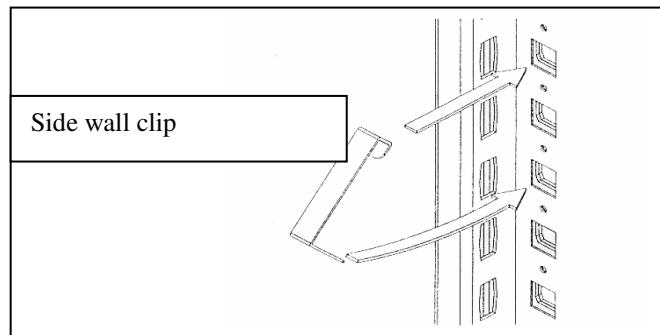

fig.1
- Place the lowest side wall section ($h = 1994$ mm) between the frame support profiles. Secure on both sides approx. 140 mm under the bottom edge of the side wall with locking pins (the round holes must be congruent with each other!). For a shelving unit height 2000 mm, fix the side wall with five clips on each side, starting from the top, at intervals of approx. 450 - 500 mm (see Fig. 1) and bend up the lugs. For shelving unit heights of 2500 mm and 3000 mm, secure the side wall with four clips on each side, starting approx. 500 mm under the side wall top edge, at intervals of approx. 450 - 500 mm (see Fig. 1) and bend up lugs.
- Position the upper side wall section ($h = 544$ mm for shelving unit height $H = 2500$ mm) between the support profiles of the frame, flush with the top edge of the unit. Secure on both sides approx. 140 mm under the bottom edge of the side wall with locking pins. Fix the side wall in the topmost possible position with a side wall clip on each side. Fix the overlap (ca. 45 mm) of the upper and lower side wall with a side wall clip on each side (see Fig.1), and bend up lug.